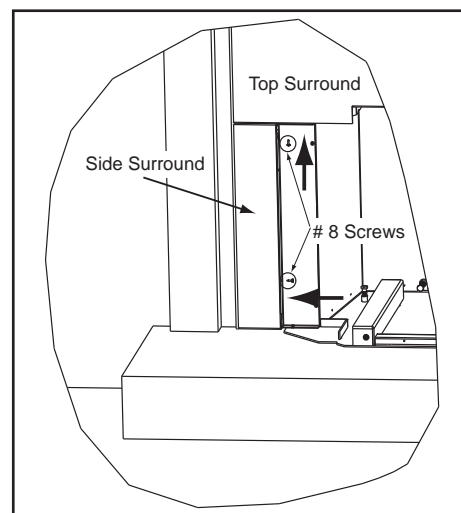

Figure 40.6
6. Install the surround set and trim set to the outer can. Secure the top and side surrounds as shown in **Figure 40.6**